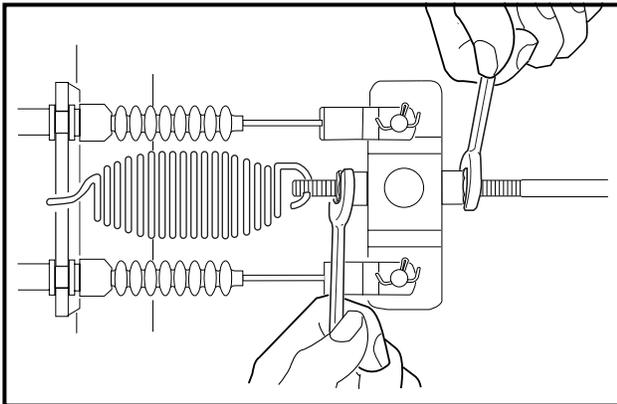

Figure 5-1 Loosen Equalizer Rod Nuts
- 1.1. Chock wheels and release park brake. To provide slack in the brake cables, loosen the hex nuts on the brake equalizer rod (Figure 5-1, Page 5-2).